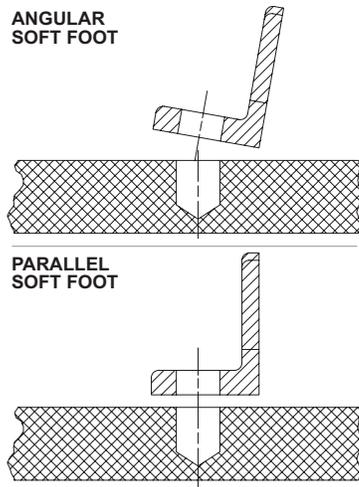

Figure 3-7 – Illustrations of Soft Foot
2. Check each foot for gaps between the foot and base (soft foot). Shim as necessary to fill the gap within 0.002 in. (0.05 mm). Figure 3-7 shows the two most common types of soft foot conditions. If either type is present at a measurement of more than 0.003 in. (0.076 mm), the pump may fail prematurely.